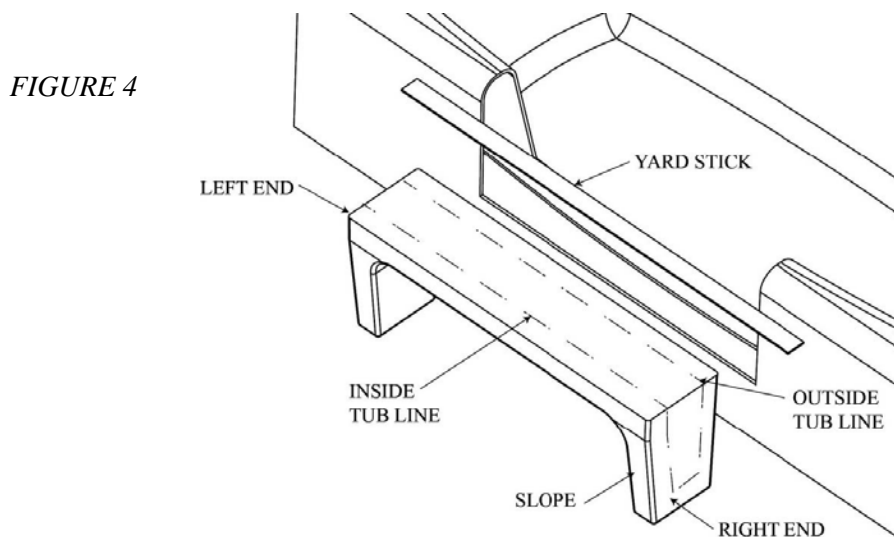

FIGURE 4
6. Place step as shown and connect each side of the outside tub line using a yard stick (Figure 4).